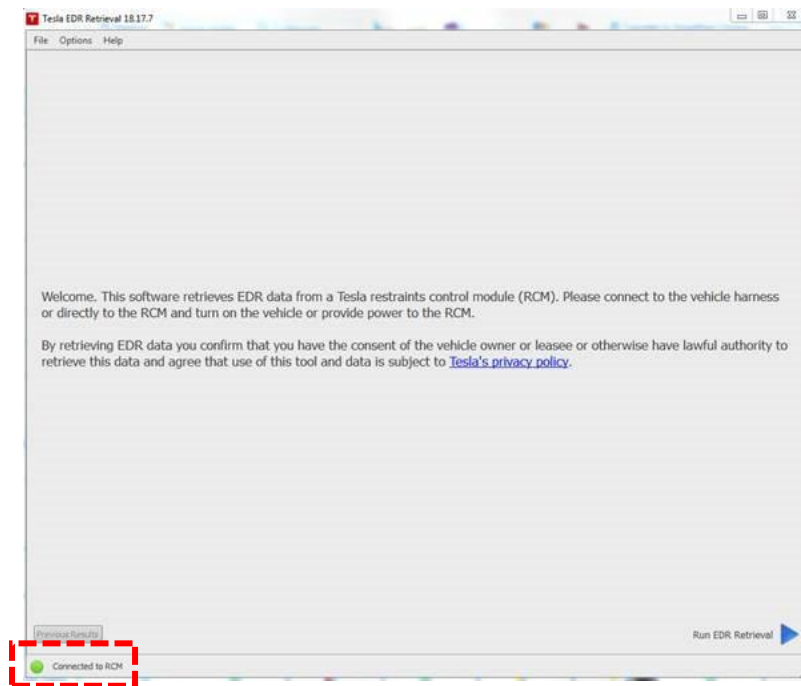

Figure 41. EDR program successful connection
- When connected properly, a green circle and the message “Connected to RCM” displays on the bottom left corner of the window (Figure 41).